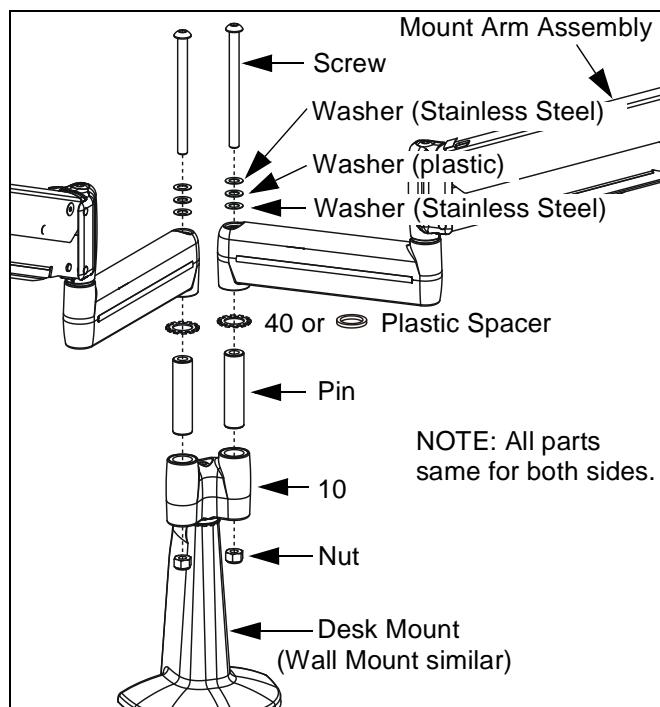

Figure 9: Multi-Dual Arm Assembly
- Insert retained pin into Y-connector (10) upper bore (See Figure 9).
- Install washer (40) or retained plastic spacer, as desired, on pin (See Figure 9).
- Insert mount arm assembly on pin (See Figure 9).
- While holding retained nut in lower bore of Y-connector (10), insert retained screw through retained washers (stainless steel washer, plastic washer, and stainless steel washer), mount arm assembly, and Y-connector (10), into retained nut (See Figure 9).